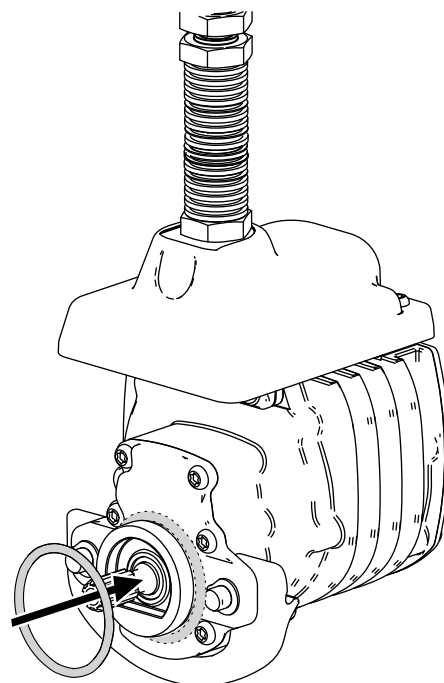

Figure 9
3. Install an O-ring to each reel motor as shown in Figure 9.